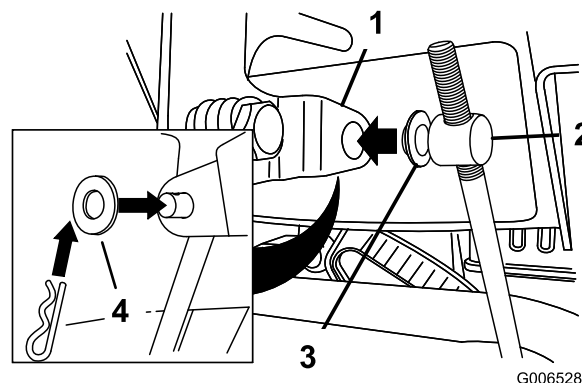

Figure 6
3. Remove the hairpin cotter and the outer washer from the trunnion on the upper end of the speed control rod (Figure 6).
Note: To make installation easier, leave the flat washer on the trunnion (Figure 6).
6. Lift up on the speed control rod and insert the trunnion into the hole in the speed selector lever (Figure 6).
- B. Disconnect the trunnion from the speed selector lever (Figure 6).
- C. Turn the trunnion downward (clockwise) on the speed control rod (Figure 6).
- D. Connect the trunnion to the speed selector lever (Figure 6).
- C. Turn the trunnion upward (counterclockwise) on the speed control rod (Figure 6).